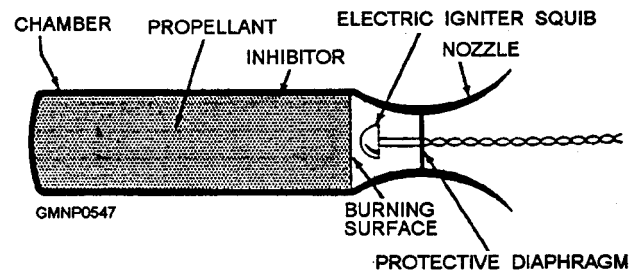

Figure 9-20.—Components of a solid-fuel rocket motor, with end burning grain.
Although there are solid- and liquid-fuel rockets, the majority of SMS missiles have solid-fuel rocket motors. The major elements of such propulsion units include (1) propellant, (2) combustion chamber, (3) igniter or squib, and (4) exhaust nozzle (fig. 9-20).